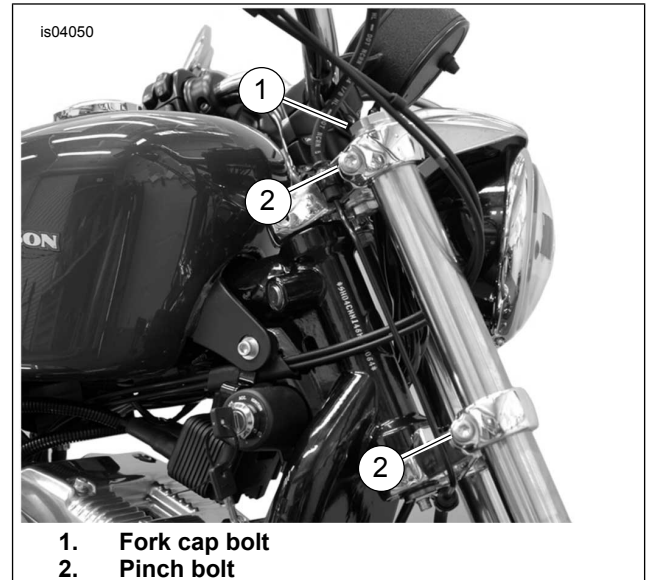

Figure 1. Loosen Pinch Bolt
4. See Figure 1. While holding the fork slider to prevent the fork from dropping, loosen pinch screws (2).
1. See Figure 1. Insert fork slider through the front lower and upper brackets. Position slider tubes so that the top of each tube cap (1) extends 10.7–12.7 mm (0.42–0.5 in) above top surface of front fork upper bracket.
2. On models with directional lamps mounted to the front fork bracket, hold directional lamp mounting brackets upright. On all models, tighten front fork upper and lower bracket pinch screws (2) to 40.7–47.5 N·m (30–35 ft-lbs).